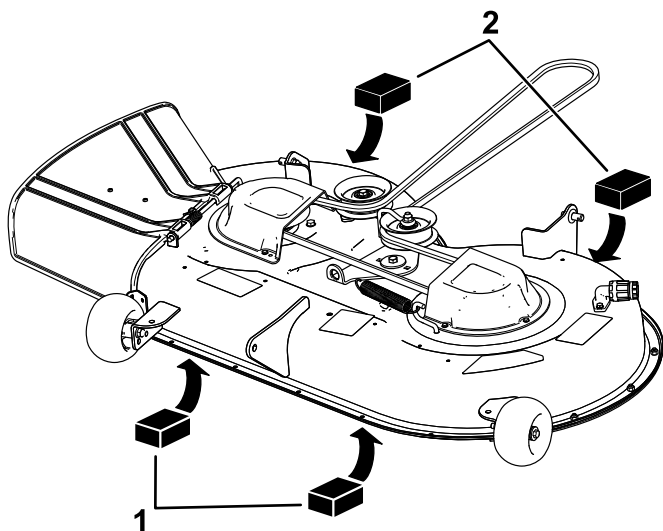

Figure 65
4. Place 2 blocks, each having a thickness of 6.6 cm (2-5/8 inches), under each side of the front edge of the deck but not under the anti-scalp roller brackets (Figure 65).
5. Place 2 blocks, each having a thickness of 7.3 cm (2-7/8 inches), under the rear edge of the cutting deck skirt, 1 on each side of the cutting deck (Figure 65).